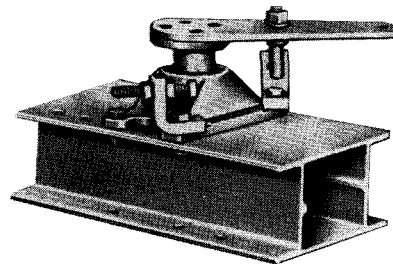
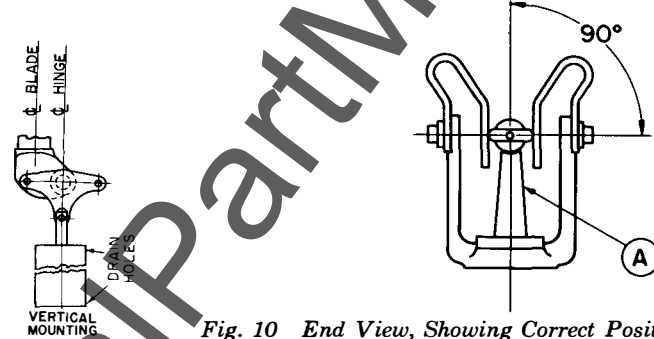

Fig. 3 Section of base showing Rotor Crank Stops
Fig. 10 End View, Showing Correct Position of Blade Contact in Closed Position
(A) **Rotating Crank Stop**—This is the stop arrangement found on the switch base, located near the rotor crank. This stop limits the travel of the rotating insulator, stopping the drive crank and consequently the rotating insulator stack in both the switch open and switch closed positions (Fig. 3). These stops also furnished on offset bearings.
The blade contact end should be perpendicular to the jaw fingers, Fig. 10. Adjustments may be made at the closed-position rotor crank stop, Fig. 3. In this position the blade should rest lightly on the fulcrum (A), Fig. 10. Adjustments can be made by removing pin (B), Fig. 12, and turning the clevis (C) in or out to raise the blade contact up or down in the jaw.
After this blade-closed adjustment is made, open the switch to desired position and set the rotor crank open-position stop, Fig. 3, so that it engages the crank projection, then tighten.